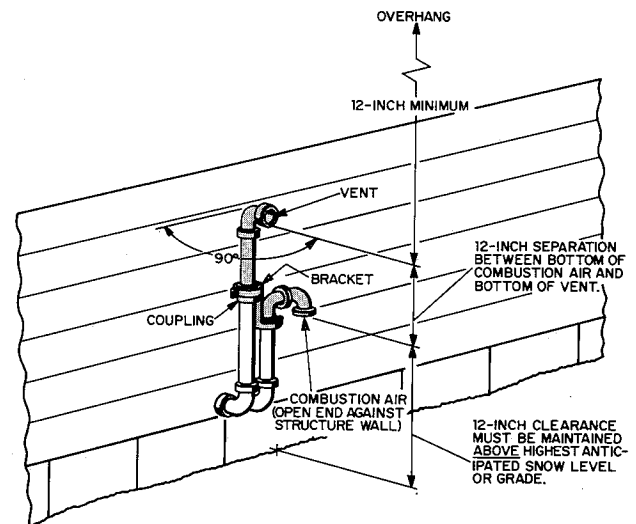
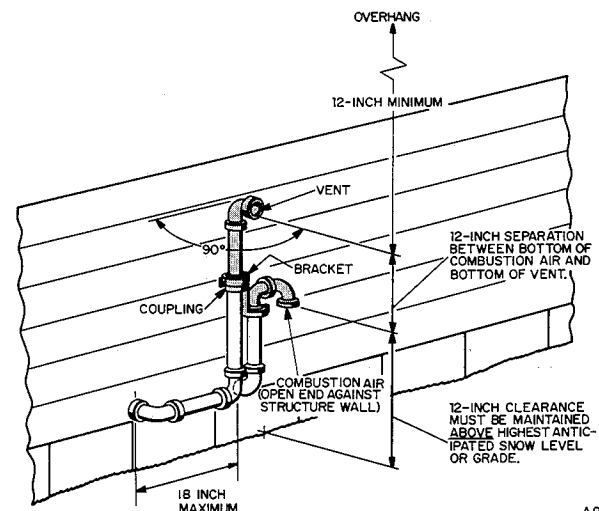

Fig. 6—Sidewall Termination Below Snow Level or Too Close to Grade (Preferred)
Fig. 7—Sidewall Termination Below Snow Level or Too Close to Grade (Option)
3. Sidewall terminal installation when combustion-air and vent pipes exit through sidewall below highest anticipated snow level or grade. See Figs. 6 and 7.
NOTE: The arrangement in Fig. 6 is preferred. The arrangement shown in Fig. 7 is an option for the vent pipe only.
- d. Loosely install U-fitting and bracket as shown in Fig. 6. Position U-fitting so open end is against structure wall.
- e. Loosely install vent pipe assembly in coupling as shown in Fig. 6 or 7.
- f. Check required dimensions as shown in Fig. 6 or 7.
- h. Install bracket as shown in Fig. 6 or 7.